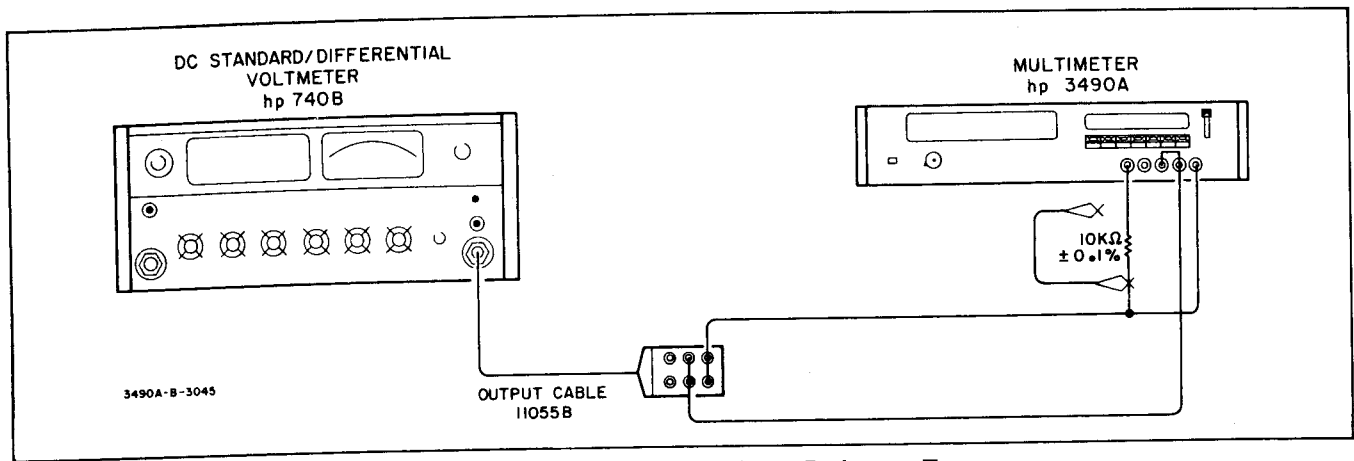

Figure 5-8. External Reference Input Resistance Test.
b. Connect 3490A, dc standard and $10\text{ k}\Omega$ resistor as shown in Figure 5-8. Connect jumper across resistor.